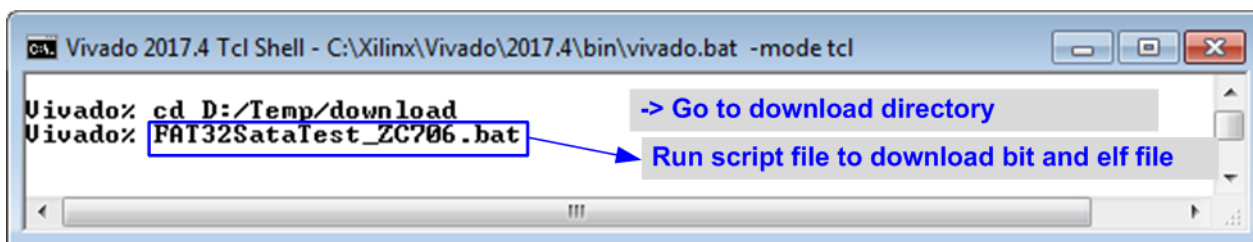

Figure 2-6 Command script for download demo file to ZC706 by Vivado TCL Shell
- b) For ZC706 board, open Vivado TCL shell. Change current directory to download. Next, run FAT32SataTest\_ZC706.bat as shown in Figure 2-6.